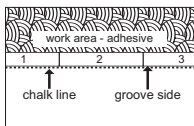

Figure 8b
- Be sure not to spread adhesive too far ahead of your work area (Figure 8b).